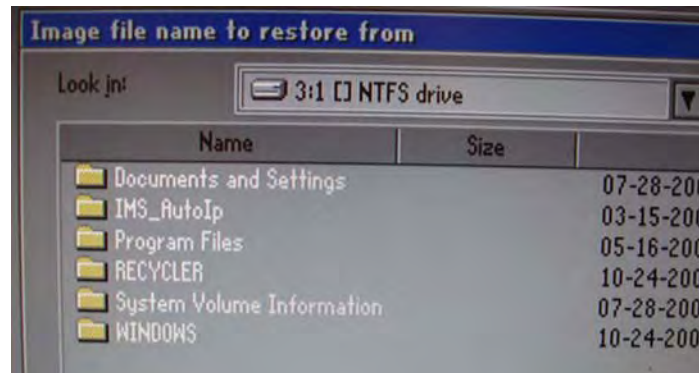

Figure 1-158. Ghost Disk Verification IV
5. Select disk to be verified and the content of the disk is displayed. A disk (Master disk), using Windows XP has the folder “IMS_AutoIP” and “Windows” (Figure 1-158). This is the disk that will be cloned.